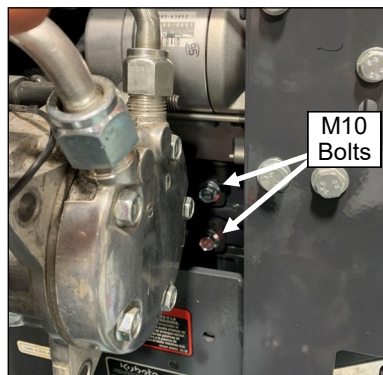

Fig. 6.2a (Secure Compressor with 2 Bolts in Rear)
- 6.2 Move compressor into location on the left side of the engine and secure the bracket with the hardware listed below as shown in figures 6.2a and b.